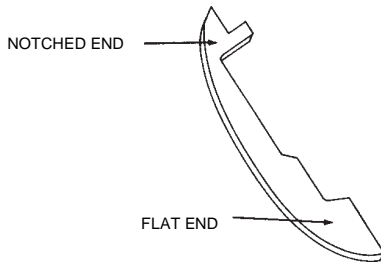

Figure 7.10.1
- C. Insert T-150 "E" Gap Gauge (Figure 7.10.1) between the pole laminations in the rotor shaft and the pole laminations in the frame.